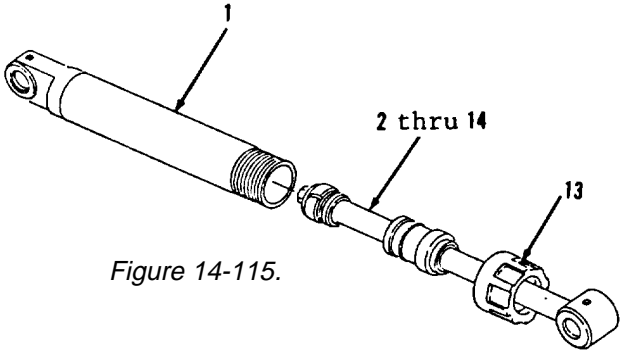
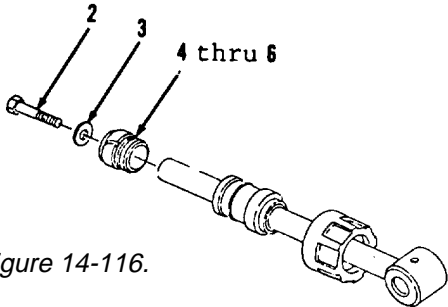

Figure 14-115.
Figure 14-116.
1. Using suitable chain wrench, loosen crown (13) until it is completely disengaged from threads of cylinder (1, Figure 14-115).
2. Remove items 2 thru 14 as an assembly from cylinder (1).
3. Remove bolt (2), washer (3) and items 4 thru 6 as an assembly (Figure 14-116).
9. Using thread lubricant, lubricate threads of bolt (2). Install washer (3) and bolt (2). Tighten to 720 to 880 ft-lb. torque.
10. Using hydraulic fluid, lubricate outside of head (7) and inside of cylinder (1, Figure 14-115).
11. Install cylinder (1).